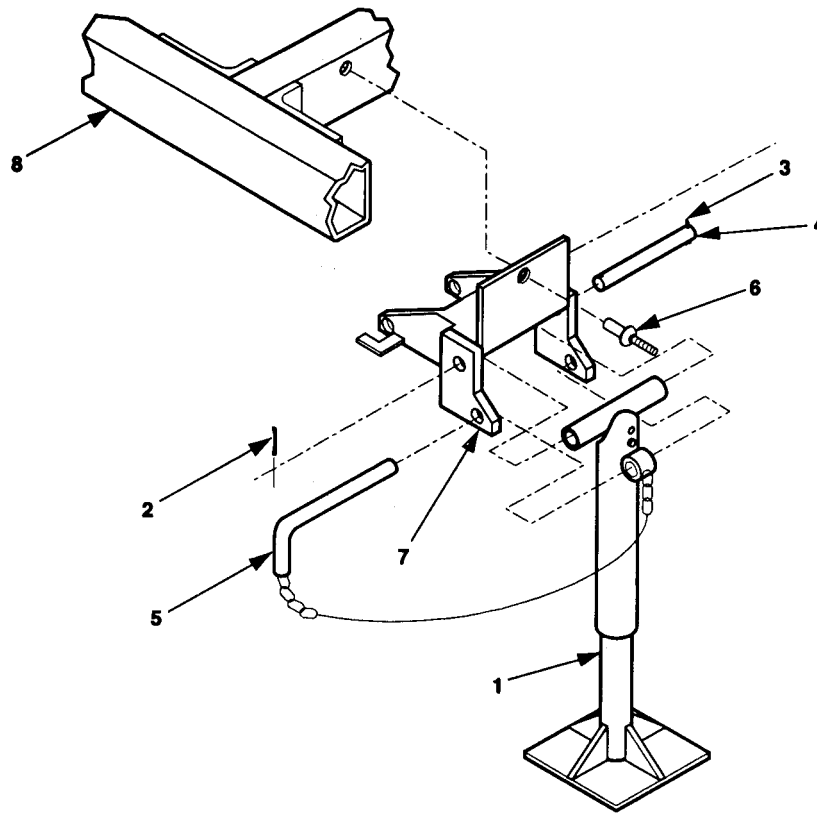

Figure 5-21. Rear Leveling-Support Jack Replacement; High Mobility Trailer.
2. Turn leg base (1, figure 5-21) to take weight off leg prop.
3. Remove either one of two cotter pins (2 or 3) from pivot shaft (4) and discard cotter pin.
4. Hold leg base (1) steady and remove pivot shaft (4) with remaining cotter pin in place.
5. Lift leg base (1) slightly to take weight off retaining pin (5) and remove retaining pin. Move leg base (1) and attached parts out of bracket (7).
6. Remove three rivets (6) and bracket (7) from trailer chassis (8).